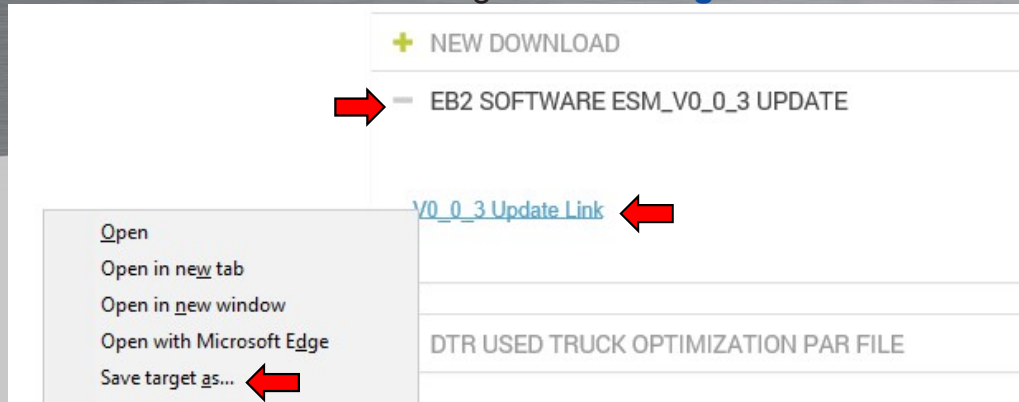

Fig. 2, Selecting & Saving the File Link
2. Scroll down to the “EB2 Software ESM_V0_0_3 Update” and select the “+” symbol, then right click on the V0_0_3 Update link then choose Save Target As. See Fig. 2.